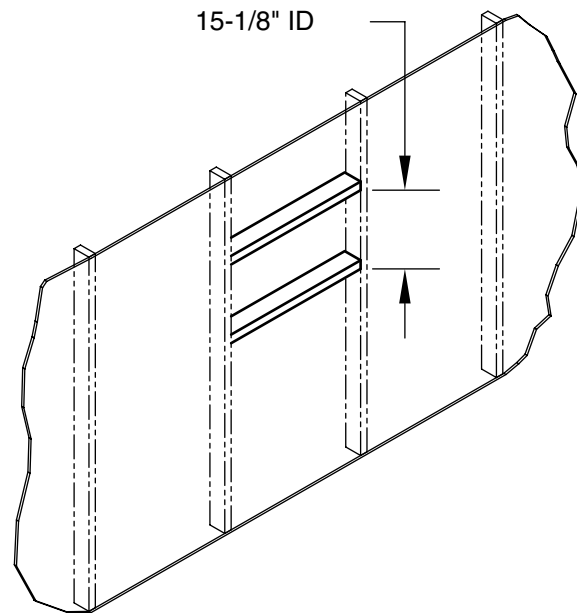

fig. 6
**PLEASE NOTE:** If the distance between the studs/ joists is 21 1/2" (54.6 cm) or more, a subframe will need to be constructed behind the sheetrock surface. This frame should be constructed between the studs/joists with an inside dimension of 15 1/8" ( 38.42 cm.) (please see fig. 6)